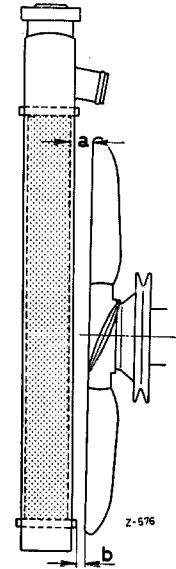

Figure 20-5/2
Now insert the water pump in the cylinder head, so that the filler cap (1) with the vent hole is exactly on top. Screw in the fixing screws of the water pump. Fix the pipe clip holder (4) to the water pump with the two longer screws M 6 x 18. Tighten all screws evenly (see Figure 20-5/1).
10. Tighten the hexagon screw fixing the pipe clip (3) to the holder (4). The pipe clip must properly clamp the lines to prevent vibrating of the lines.
**Note:** On the vehicle engine for the 180 D, type 636.930, do not fail to keep to the distances  $a = 20$  mm,  $b = 14$  mm (see Figure 20-5/2). If necessary, correct by dislocating the radiator.
14. Fill the water pump housing with Hypoid oil SAE 90. To do this, unscrew the filler plug (1) and also the oil level check screw (2) located at the side of the housing. Fill in until the oil flows out of the level check hole. Reinstall the two plugs (see Figure 20-5/1).
8. Adjust the tension of the V-belt (see Job No. 20-6, Section B, OM 621, item 2).
10. Mount the radiator ensuring that with the vehicle engine type 621.910, there is a distance  $a = 20$  mm and  $b = 14$  mm between fan and radiator (see Figure 20-5/2).
11. Fill Hypoid transmission oil SAE 90 into the bearing housing of the water pump. To do this, unscrew the oil filler cap (1) and the check screw (2), which is located at the side. Fill in oil until it flows out from the lateral check bore. Again screw in the screw plugs (see Figure 20-5/1).